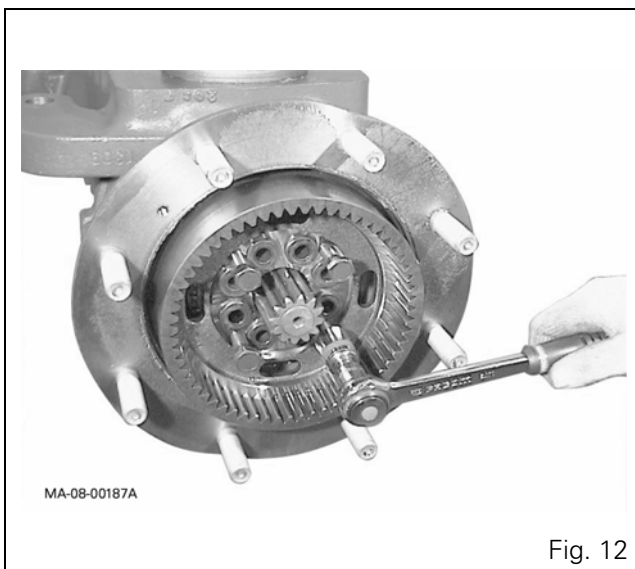
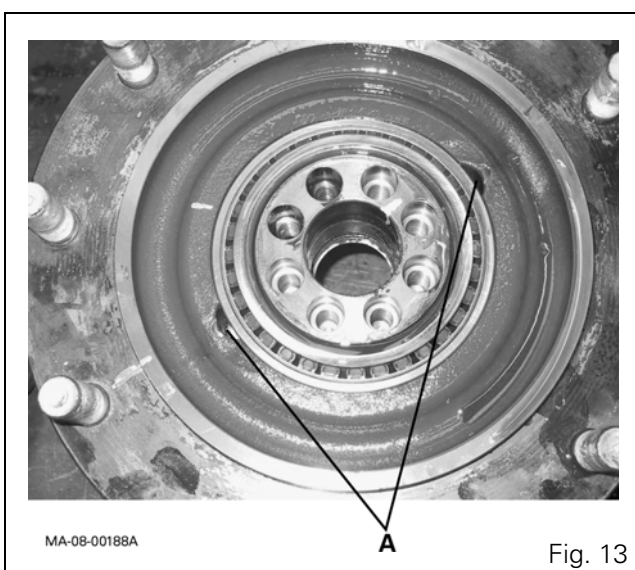

Fig. 12
Fig. 13
12. To remove the ring gear assembly from its housing, screw at least two of the screws that have just been removed into the threaded extraction holes (Fig. 12). While watching the ring gear ports, avoid positioning the screws on the cast iron slots (Fig. 13).